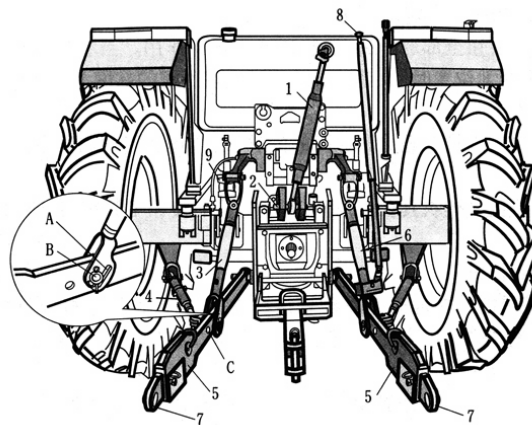

Fig.4-26 Implement suspending device
The machine applies 2 kinds of 3-point suspending device to connect with farm implement (Fig.4-26).
There are two connecting holes of lower lever and lifting levers: front hole “B” and rear hole “C”. During normal operation (like plough), the front hole “B” is always connected, while the rear hole “C” should be used in case of the implement driven by PTO shaft and large compound operation implement. (Fig.4-26)
Generally, medium length of lift lever is proper. Length of left lift lever (3) (Fig.4-26) can only be adjusted through dismounting lower end of lift lever and turning screw lever. To adjust length of right lift lever (6), driver can operate handle “8”. Adjustments on lift lever are mainly applied to adjust implement horizontally.
Slot hole “A” of lower end of lift lever (Fig.4-26) connecting to pin of lower lever can make some horizontal adjustment range of lower lever (5). This is very useful to very wide implement (such as harrow and cultivator).